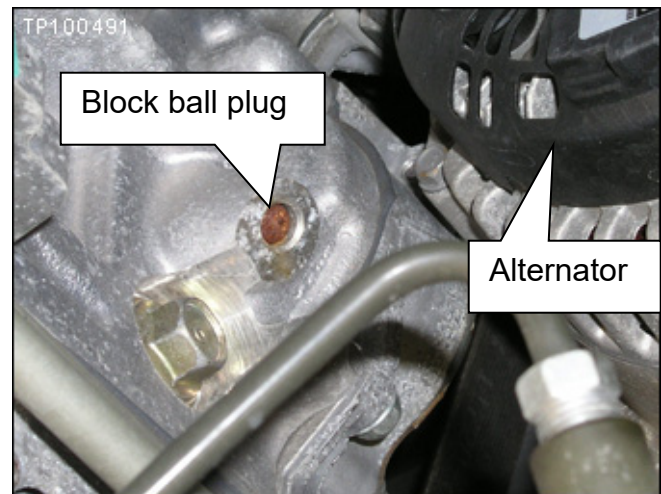

Figure 3
2. Use the punch and a hammer to tap the block ball plug further into the hole until it fully seats (see Figures 3 and 4).